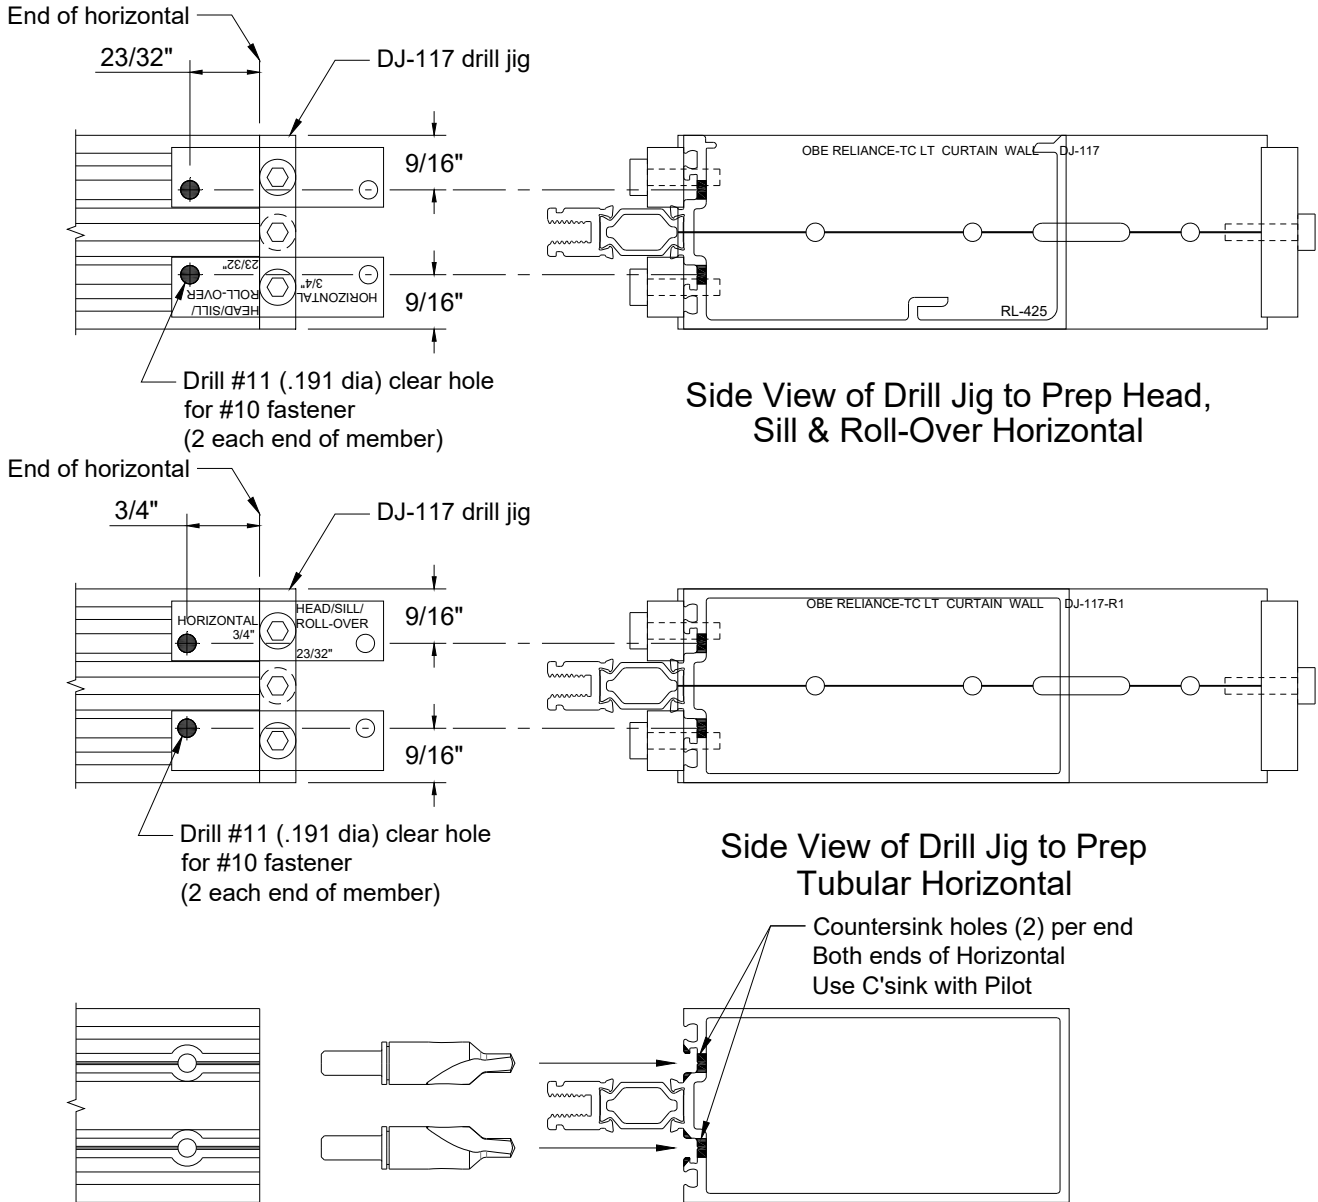

Figure 14: Horizontal Fabrication
- 7.1 Fabricate each end of the horizontal members for shear block fasteners, using **DJ-117** Drill Jig. See *Figure 14*.